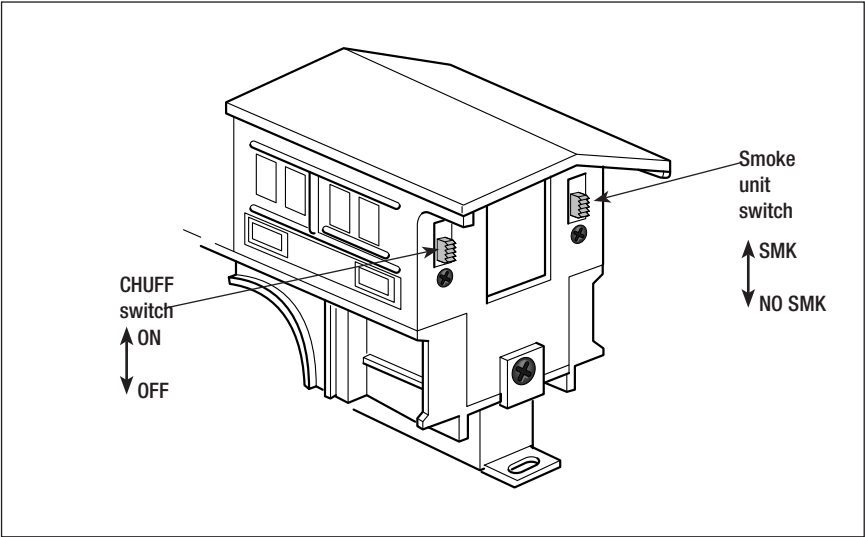

Figure 7. Switch locations
**Y**our locomotive is equipped with a smoke generator that produces safe, clean white smoke during operation if the smoke unit switch is in the ON position. Refer to Figure 7 on page 14 for the location of the switch.
To silence the background steam sounds, slide the CHUFF switch to the OFF position on the end of the locomotive cab. See Figure 7. Turn off track power for about two seconds, and then the background sound will be silenced when the track power is restored. The whistle, announcement, and bell sounds can still be triggered at any time using the remote. To restore the background sounds, simply slide the CHUFF switch to the ON position and then turn off track power for two or more seconds.